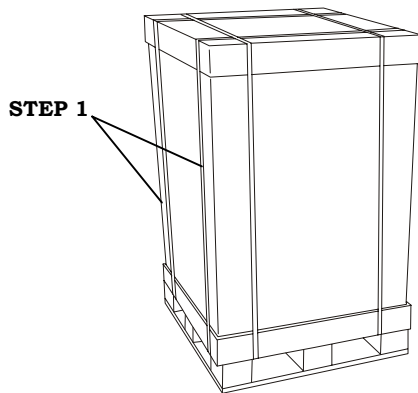

FIGURE A-1
1. Cut only the two shipping straps that hold the shipping package to the pallet. See Figure A-1.